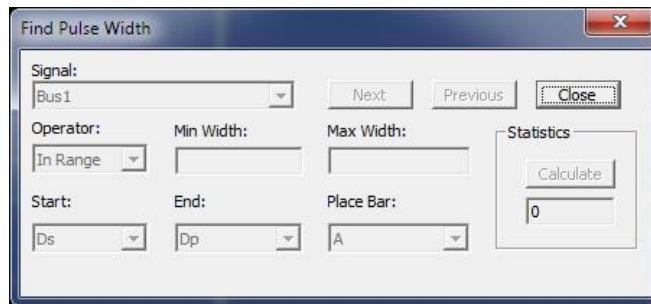

Figure 4-63 Find Pulse Width dialog box
Use a pulse width (PW) definition to find an event. Figure 4-63 shows the dialog box.